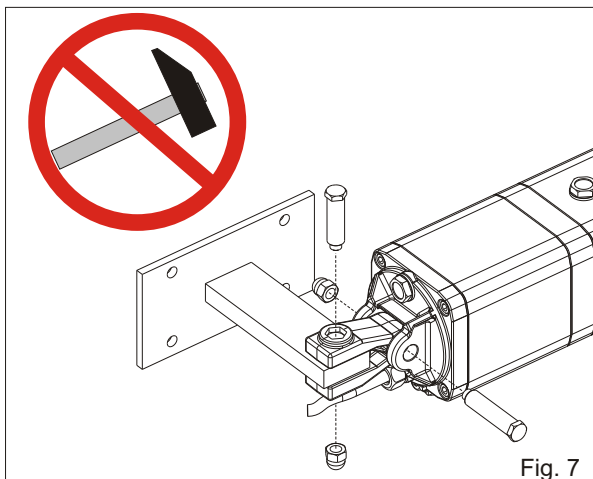

Fig. 7
- Fix the oscillating fork as in fig.7